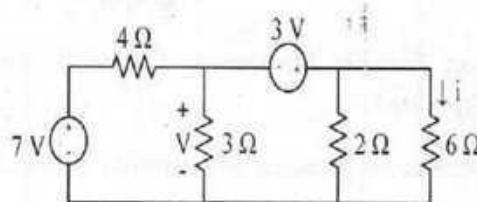

Fig: 2(a)
2. (a) Use Nodal analysis to find 'i' in the circuit shown in Fig.2(a) [15]